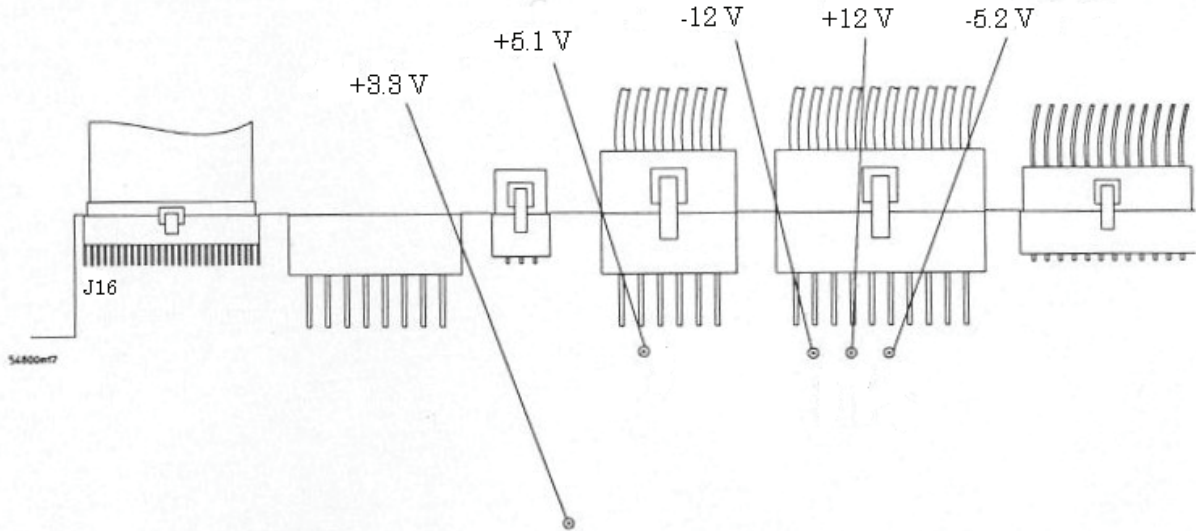

Figure 1. Power supply test points
- (1) Press TI ⏻ button to power down TI.
- (2) Disconnect power cord and remove TI cover.
- (3) Reconnect power cord and press TI ⏻ button to power up TI.
- (4) Connect multimeter common lead to TI ground.
- (5) Connect multimeter positive lead to TI +5.1 V test point (fig.1).